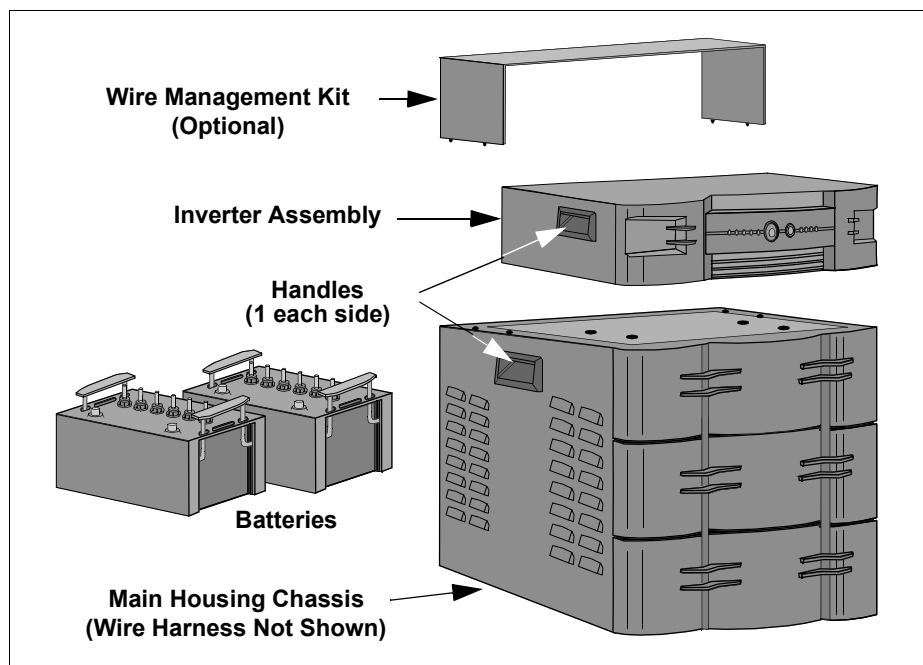

Figure 1. APC Home Inverter
APC's Home Inverter (Figure 1) is designed for years of trouble-free use. The Inverter is a sinewave back-up power supply intended to serve house loads. It is rated for 800 VA/500W at 230 Vac, 50-Hz, and operates on a wide range of input voltages (100 - 265V). If the input voltage goes out of range (less than 100V or more than 265V), the utility is isolated and the inverter supplies power to the load from the internal batteries. The Inverter can serve inductive loads (flourescent lamps, ceiling and table fans), resistive loads (incandescent lamps), and switched mode power supply (SMPS) loads (television). The typical backup time with the primary battery pack at full load is approximately two (2) hours. Backup time can be further extended by connecting the optional external battery pack in parallel to the existing battery pack.
Inspect the shipping containers for signs of obvious damage. If damage to either shipping container is extensive, notify the carrier and return the unit to the factory. If there are no apparent signs of damage, carefully open the container, and remove the packing materials (do not discard). To remove the Main Housing Chassis or Inverter Assembly from the shipping container, grasp the handles located on each side of the housing or inverter (Figure 1), and remove the item from the container. Inspect each for: dents, scratches, broken or missing wheels (housing only), warpage of the top cover, or other signs of damage. If either unit is damaged, please notify the factory and obtain a Return Material Authorization number and return the unit as/if instructed. If there are no obvious signs of damage, repackage the unit for shipment to the customer using the materials already removed from the shipping container. Ship or otherwise deliver the unit to the customer location.
Remove Battery from Shipping Container - Remove the battery from the shipping container by grasping the handles (see Figure 1) located at each end of the battery. Lift the battery straight up and out of the shipping container.
To remove the Main Housing Chassis or Inverter from the shipping container, grasp the handles located on each side of the Housing or Inverter (Figure 1), and remove the item from the shipping container. Inspect each for: dents, scratches, broken or missing wheels (housing only), warpage of the top cover, or other signs of damage. If either unit is damaged, please notify the factory and obtain a Return Material Authorization number and return the unit as/if instructed. If there are no obvious signs of damage, proceed with Battery Inspection.